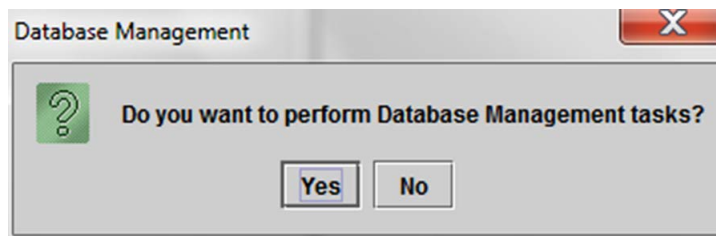
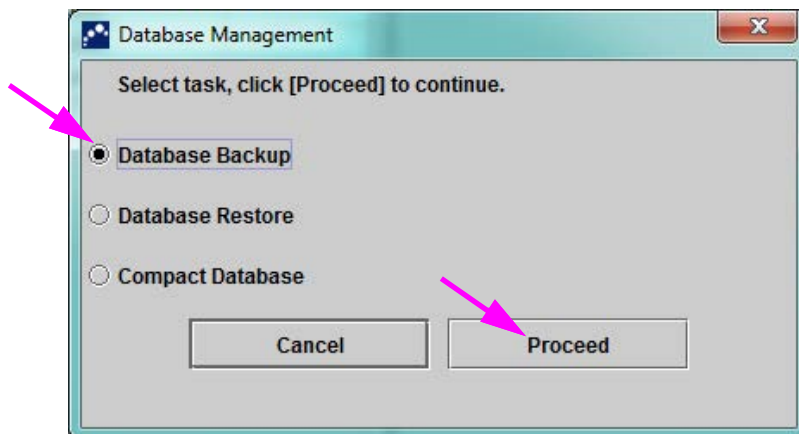

Figure 5-6. Database Management Dialog Box
Figure 5-7. Database Management Dialog Box
1. If the **Database Management Reminders** box on the System Configuration dialog box (see Figure 2-59) is **not** checked, the Database Management Dialog Box (see Figure 5-6) will not appear and no action concerning the database will be required. The software will continue to load and you can skip to Section 5.2.3.2 to continue the startup sequence.
2. If the **Database Management Reminders** box on the System Configuration dialog screen (see Figure 2-59) is checked, the Database Management dialog box (see Figure 5-6) will then appear on top of the GeneXpert Dx System window asking if you want to perform Database Management tasks.
- A. If you click **No** on the Database Management dialog box (see Figure 5-6). The GeneXpert Dx software continues to load and you can proceed to Section 5.2.3.2.
- B. Click **Yes** in the Database Management dialog box (see Figure 5-6) and you will be asked to select the task to be performed (see Figure 5-7).
Depending on the user's privileges, all (or any) of the four options in the Database Management dialog box may not be visible. See Figure 5-7.
4. Click the **Proceed** button (see Figure 5-7) to start performing the desired database management task.